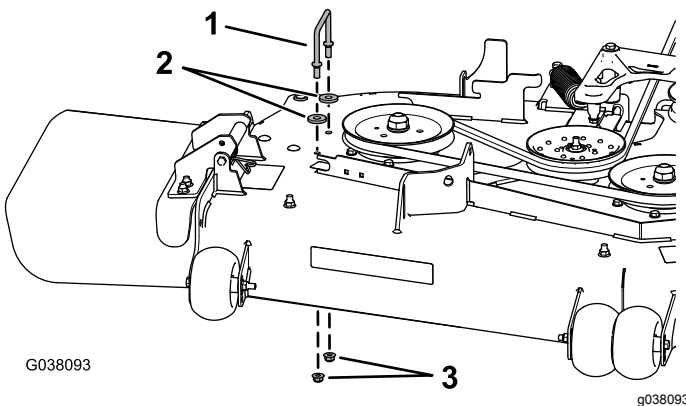

Figure 22
3. Remove the right belt-cover bracket, 2 washers (60-inch mower deck only), and 2 flange nuts from the mower deck (Figure 22).